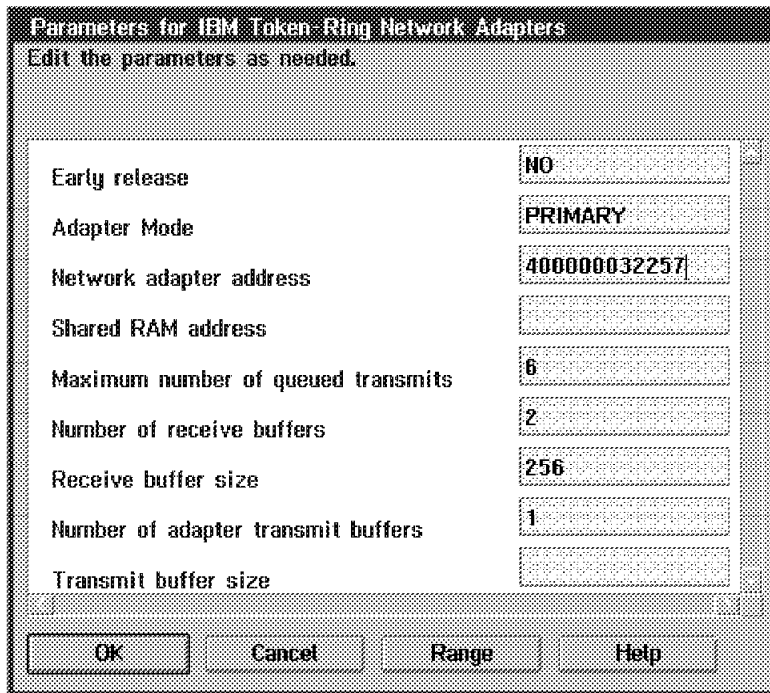

Figure 96. Edit Adapter Parameters for Workstation LAN Adapter (Token-Ring)
Step 2. If you are using locally-administered addresses, as in the ITSO setup, be sure to enter the network adapter address for the token-ring adapter in the Edit Adapter Parameters window as shown in Figure 96.